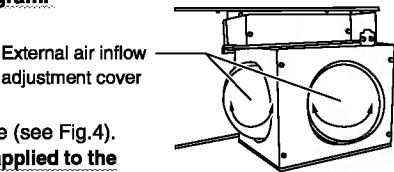

Fig. 4
- (5) Open the external air inflow hole (150mm diameter) connecting the external air ducting (see Fig.4). **Set the external-internal air mixture to the range of use conditions as shown in the capacity diagram.**
Cut the joiners at left and right of the external air inflow hole with a pair of cutters and rotate the cover to open (see Fig.4).
As with intake adjustment, cut the joiners at left and right and rotate the cover repeatedly to remove (see Fig.4).